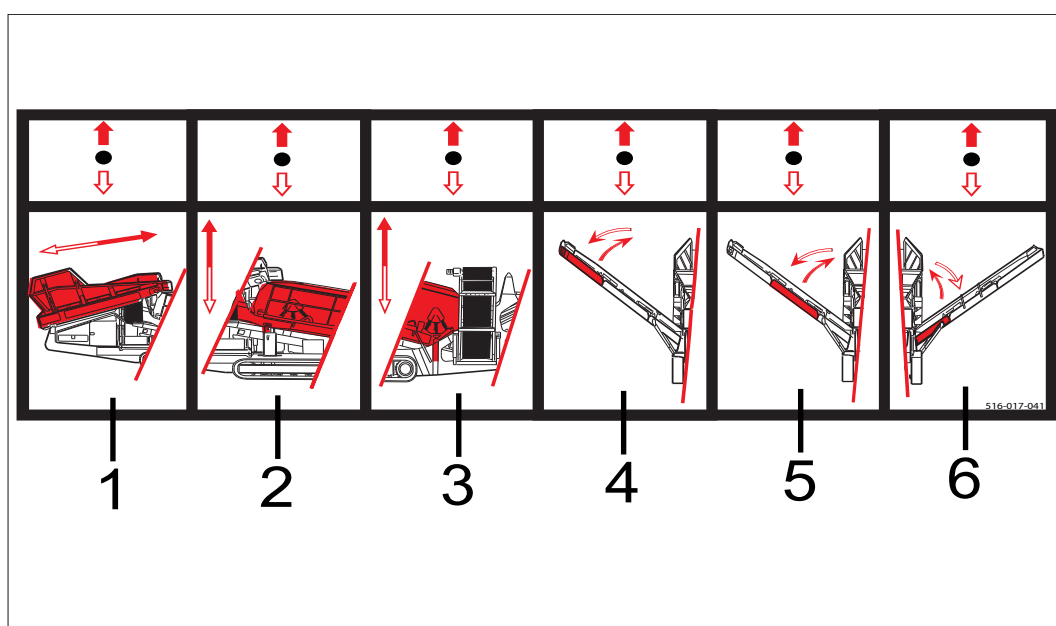

Figure 5.25 - RHS Control Bank Decal
5. Go to the other side of the machine (RHS) and locate the RHS control bank (Reference: Figure 5.25).
6. Use lever 6 (Reference: Figure 5.25) to fold the bottom section of the conveyor until it is vertical.